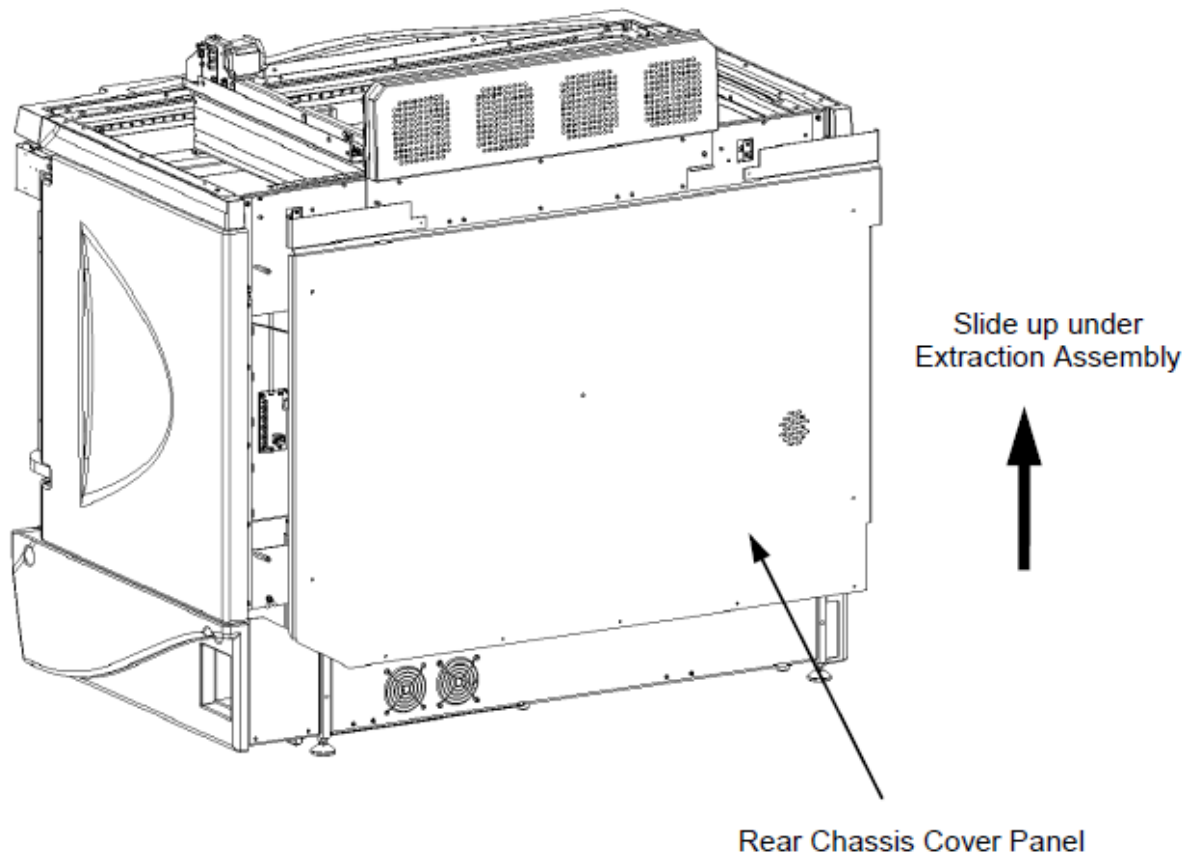

Figure X-2: Rear Chassis Cover Panel
2. Remove the Rear Chassis Cover Panel as shown in Figure X-2 (when replacing the panel, secure the screws and washers with Loctite 222).